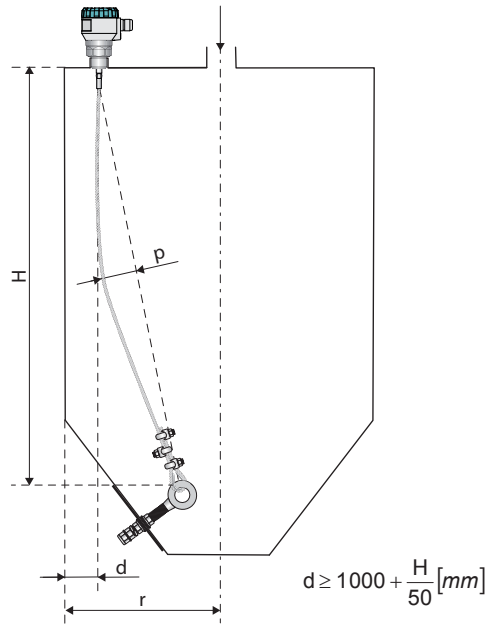

Fig. 21: Recommended installation of the level meter with anchoring on the same side of the silo
same side of silo (Fig. 21)	$\geq 1000 + H/20$
- If the ratio of silo width to depth is determined by formula: $r \geq 1000 + H/20$ [mm], the rope can be anchored also on the same side of the silo, see Fig.21.